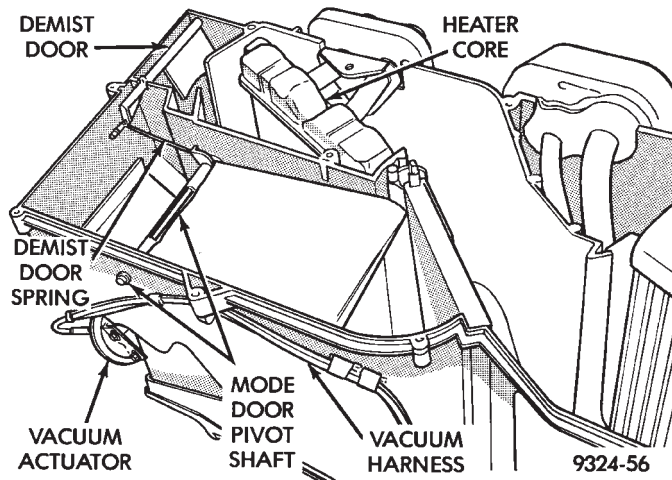

Fig. 6 Removing or Installing Mode Door Shaft
(7) To install mode door to housing, insert door shaft through housing and door pivot and demister spring. Push on shaft retainer (Fig. 6).